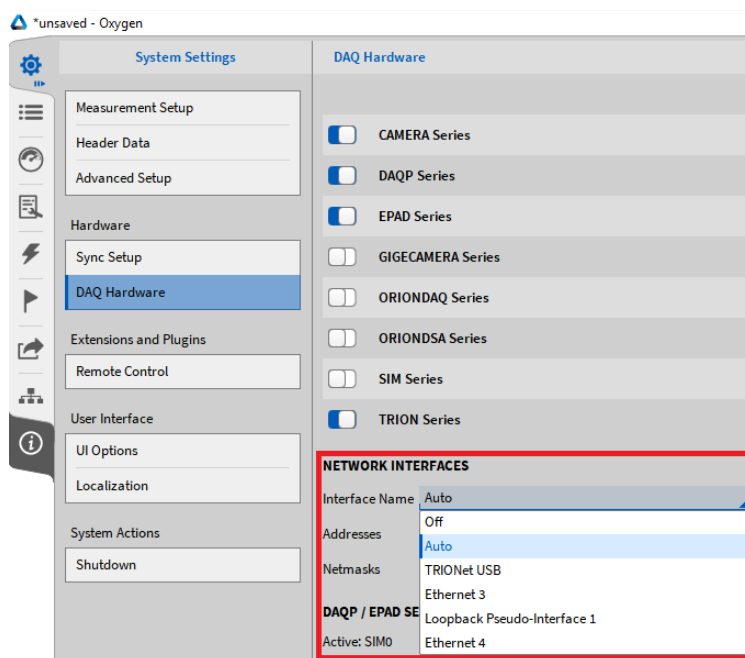

Figure 2-12: Network Interface settings
- Choose 'Auto' from the 'Network Interfaces' drop-down menu (see Figure 2-12). This will scan all ethernet ports and automatically detect the TRIONet device